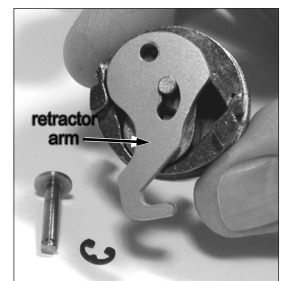

Fig. 2c: The retractor arm placed for LH operation.
- 2c. **Flip over the retractor arm** as shown in Fig. 2c.